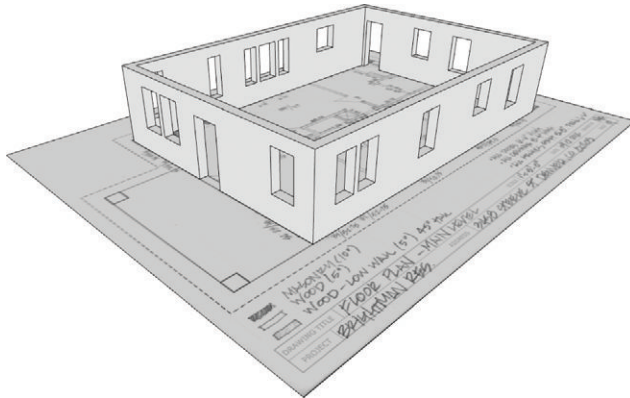

Figure 17.32 The final exterior walls
6. Use the Push/Pull tool to create all major openings as shown in Figure 17.32. Push from the outside of the house in. After creating the first opening, you can double-click on the other openings and use the memory of the Push/Pull tool.